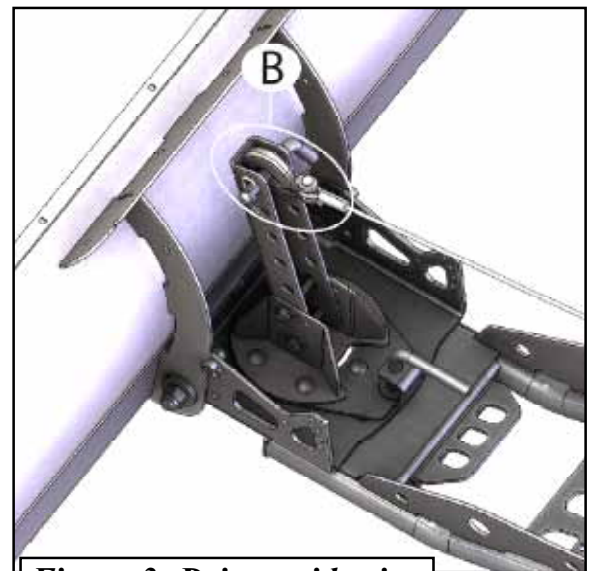

Figure 3: Drivers side view
3. Place lever lift arm as far forward towards blade to allow maximum pull as shown in Figure 3 & 4. NOTE: Check location by rotating plow blade as far right & left to make sure nothing hits.
6. Place hitch pin (3) in plow lever lift channel (2) to achieve desired lift angle as shown in Figure 3. NOTE: Multiple configurations can be achieved to fit any machine.
7. Attach winch hook (B) to Plow Lever Lift Channel as shown in Figure 3.